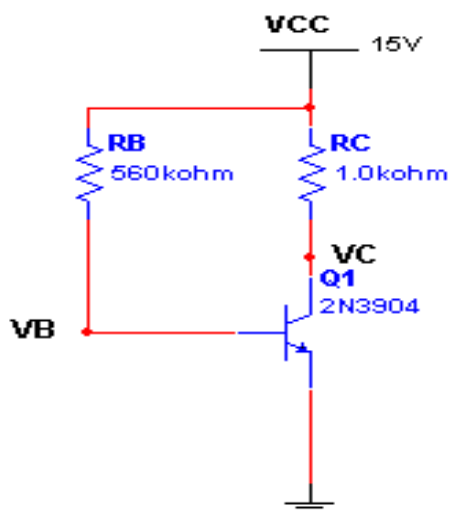

Figure 1: Base biased transistor circuit
1. For the circuit of figure 1, if $\beta=150$, then I_B is
2. If β for the transistor in the circuit of figure 1 increases, then
3. If R_B is made smaller in the circuit of figure 1, then